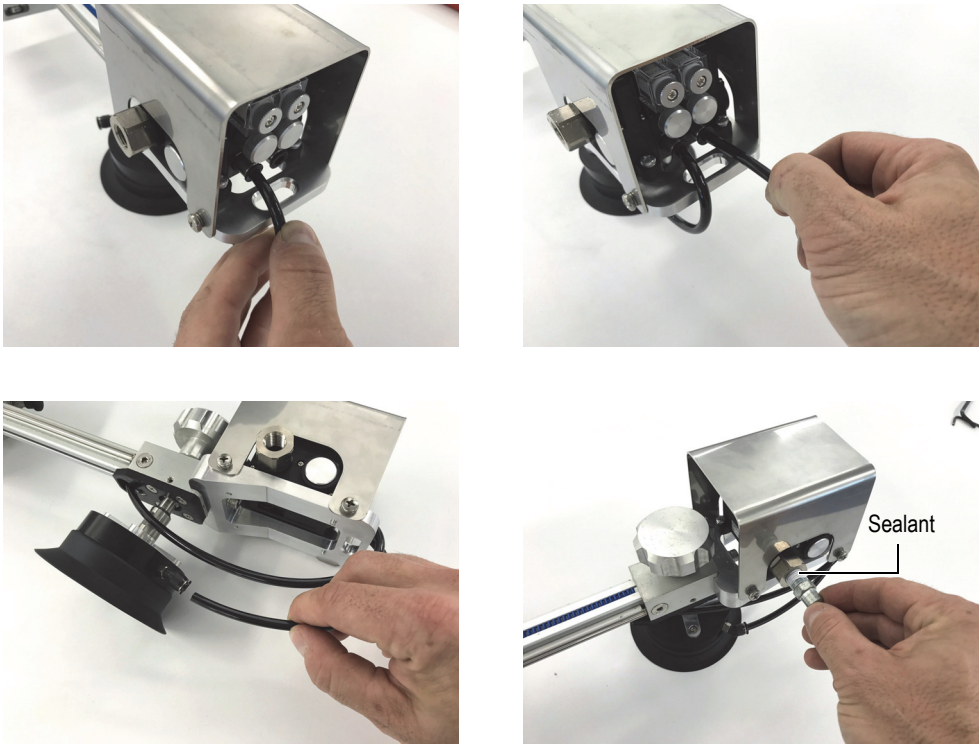

Figure 2-16 Connecting the tubes to the vacuum generator
11. Cut the excess length from the long tube, then connect the tube to the vacuum generator and install the air supply connector [with a suitable sealant on its threads] (see Figure 2-16 on page 37).